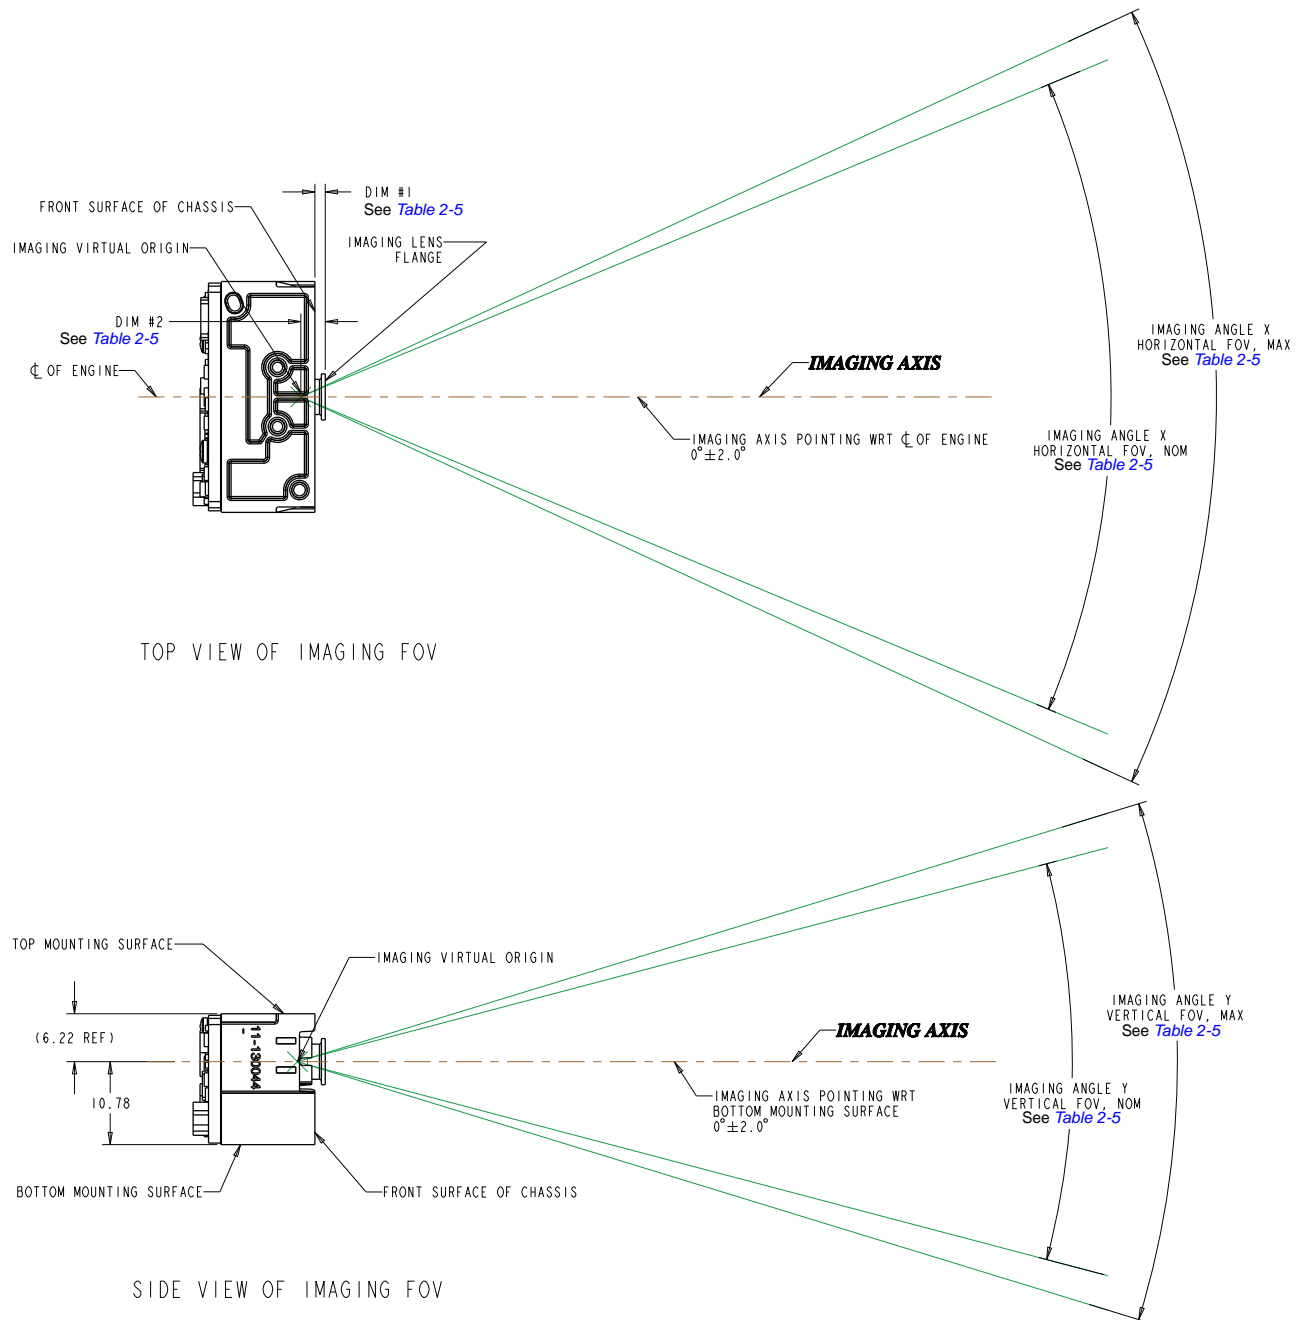
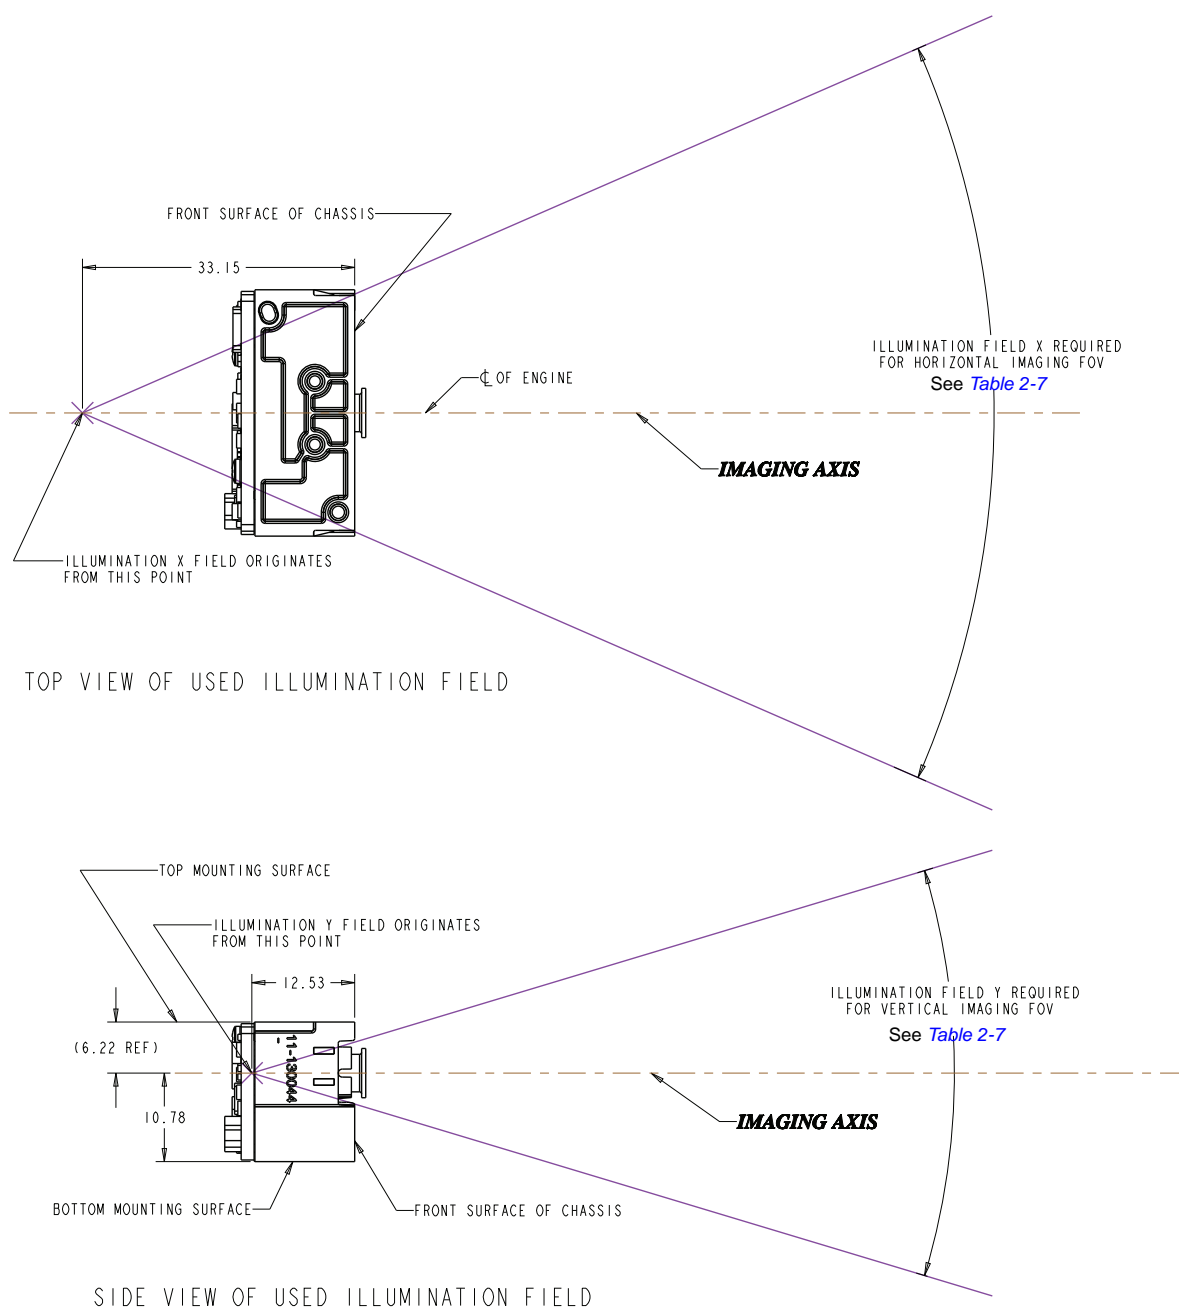

Figure 2-3 SE3300 Imaging Field of View and Focus
Figure 2-5 SE3300 Required Illumination Field
Design the engine's housing so that internal reflections from the aiming and illumination system are not directed back toward the engine. The reflections from the window or housing can cause problems, and for particular window tilt angles, these reflections can bounce off the top or bottom of the housing and reach the engine. Also, keep all housing elements outside the imaging field of view and usable illumination volume (see Figure 2-3 on page 2-8 and Figure 2-5 on page 2-11). Avoid any bright objects around the engine that can be reflected by a tilted window into the engine field of view and appear in a captured image.
- Ensure the window size is large enough to cover the imaging field of view and usable illumination volume specified in Figure 2-3 and Figure 2-5 plus mounting tolerances of the window relative to the engine.